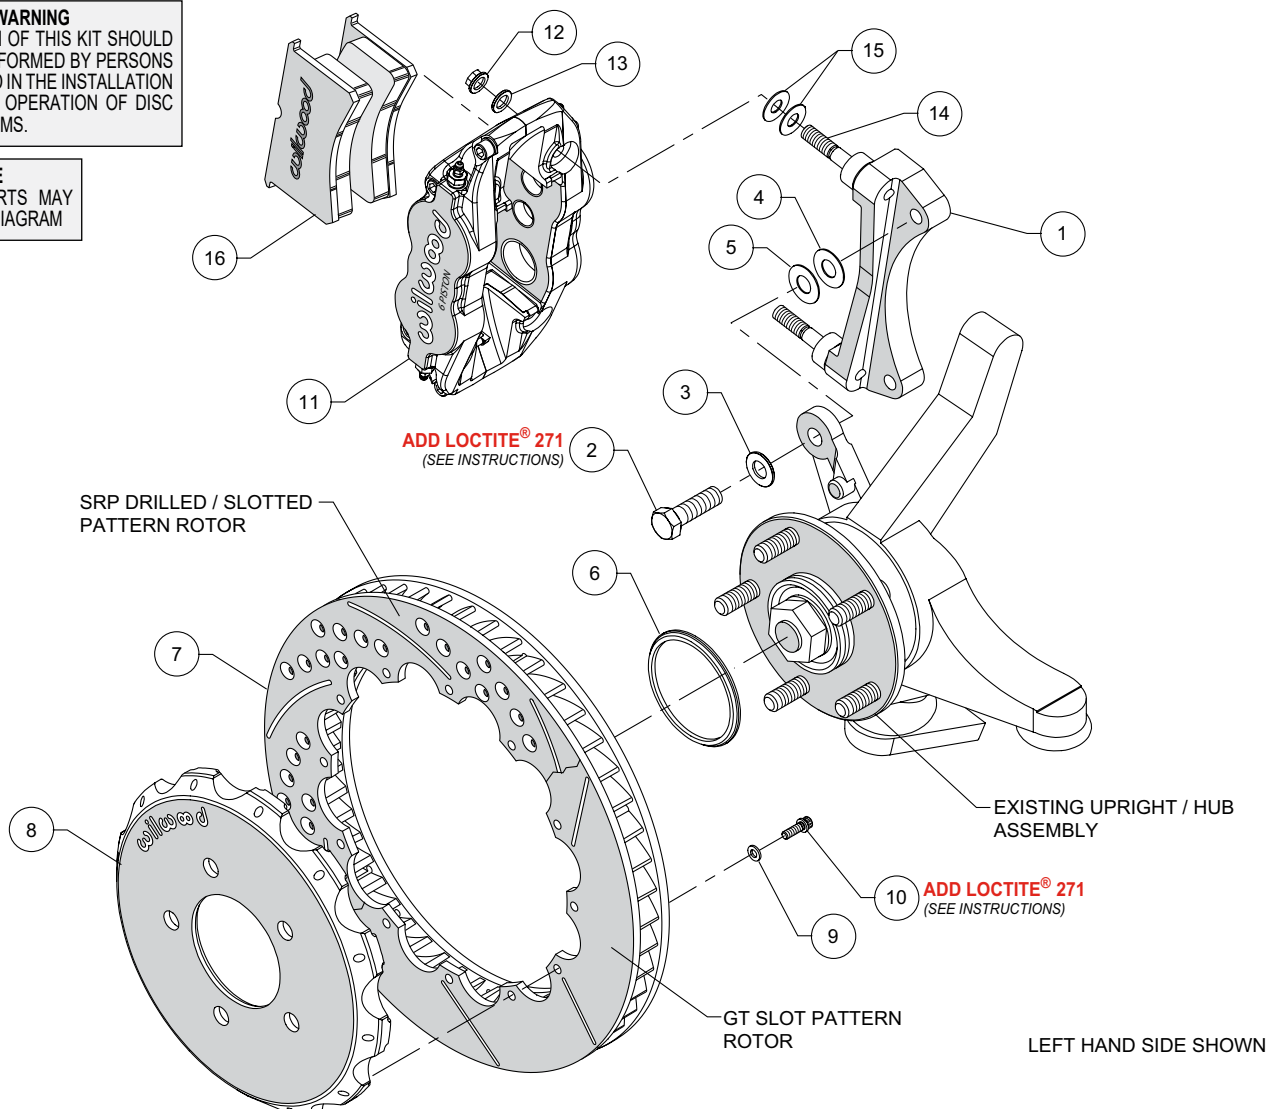
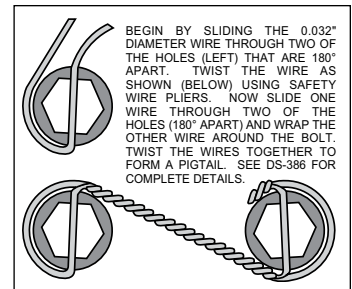

Figure 1. Typical Installation Configuration
Figure 3. Safety Wire Diagram
**NOTE:** Numbers in parenthesis refer to the parts list and Figure 1 on the preceding pages.
- The caliper mount bracket (1) should initially be installed with clean, dry threads on the mounting bolts. Orient the bracket as shown in Figure 1 and Photo 1, and install using mounting bolts (2) and washers (3). Initially place one each .033" thick shim (4), and .015" thick shim (5) on each bolt between the bracket and upright, Figure 1. Temporarily tighten the mounting bolts. **NOTE:** The bracket must fit squarely against the mount bosses on the upright. Inspect for interference from casting irregularities, machining ridges, burrs, etc. Later, after the caliper alignment has been checked, the mount bolts will be secured using red *Loctite*® 271.
- Orient the rotor (7) and the hat (8) as shown in Figure 1 and Photo 2. Attach rotor to hat using bolts (10) and washers (9). Apply red *Loctite*® 271 to the bolt threads and torque to 155 in-lb using a criss-cross pattern. For an added measure of security, the bolts may be safety wired using standard 0.032 inch diameter stainless steel safety wire as shown in Figure 3. Please refer to Wilwood's data sheet DS-386 (available at [www.wilwood.com/Pdf/DataSheets/ds386.pdf](http://www.wilwood.com/Pdf/DataSheets/ds386.pdf)) for complete safety wire installation instructions.
- NOTE:** This kit contains distinct right and left hand calipers that must be mounted in a specific direction, as described below. Initially place two .035" thick shims (15) on each stud (14) as shown in Figure 1 and Photo 4. Mount the caliper (11) onto the bracket (1) using lock nuts (12) and washers (13), Figure 1 and Photo 5. Ensure that the caliper is mounted so that the largest pistons are at the rotor exit end of the caliper, in relation to the direction of rotor rotation. Temporarily tighten the lock nuts and view the rotor through the top opening of the caliper. The rotor should be centered in the caliper, Photo 6. If not, adjust by adding or subtracting shims (4 and/or 5) between the bracket and the upright. Always use the same amount of shims on each of the two mounting bolts. Once the caliper alignment is correct, remove the bracket mounting bolts one at a time, apply red *Loctite*® 271 to the threads, and torque to 60 ft-lb.